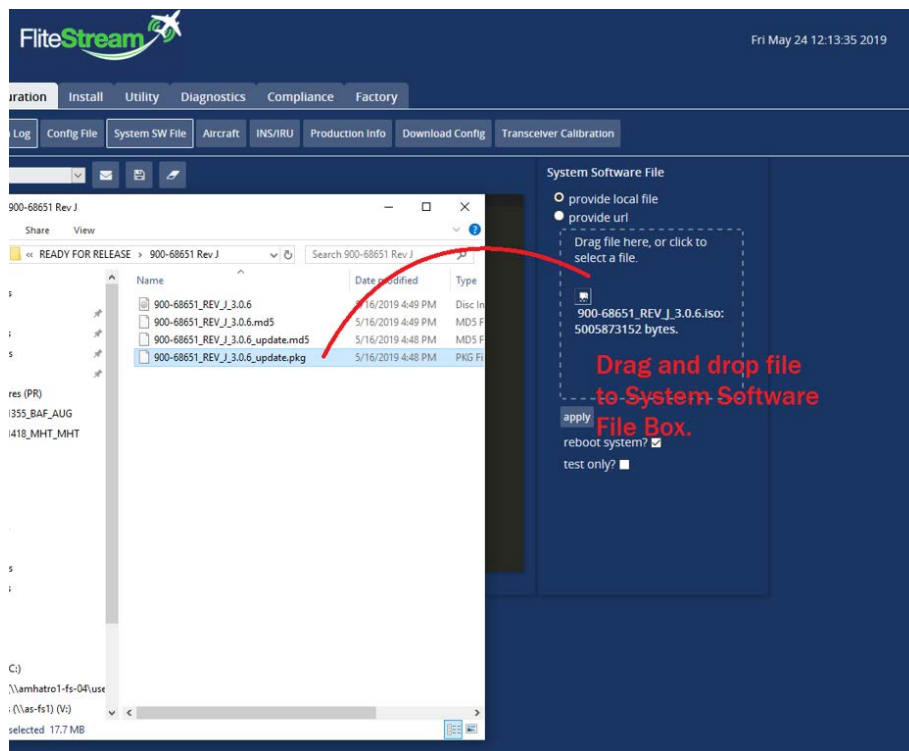

Figure 7.10 S/W Image Load
3. Open the **System SW File** window. Drag and drop the **900-68651\_REV\_T\_3.1.4\_update.pkg** file into the window as shown in Figure 7.10.